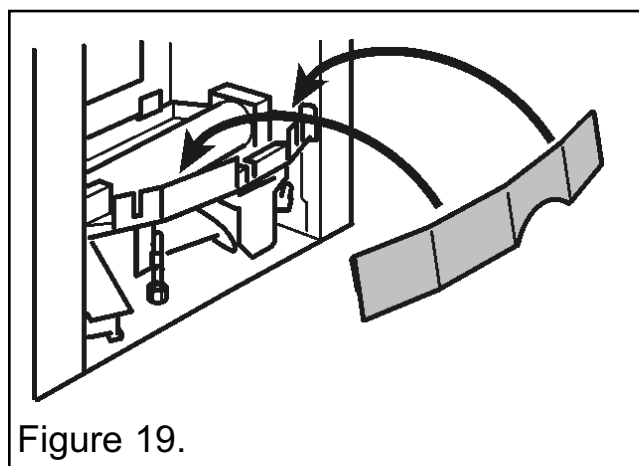

Figure 19.
1. Fit the burner tray trim over the front rim of the burner tray. Push the trim fully down (See figure 19).